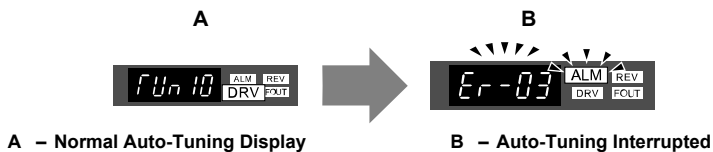

Figure 4.8 Auto-Tuning Interruption Display
2. Determine which type of Auto-Tuning best fits the application requirements following *Figure 4.8*.